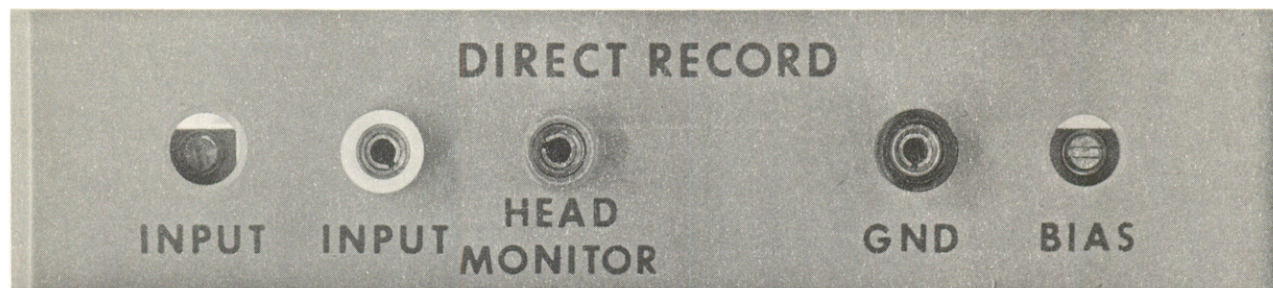

Figure 4-2. Typical Front Panel, Direct Record Amplifier
Step 1: Connect a VTVM between the HEAD MONITOR and GROUND test points located on the front panel of the direct record amplifier (see figure 4-2) being checked.